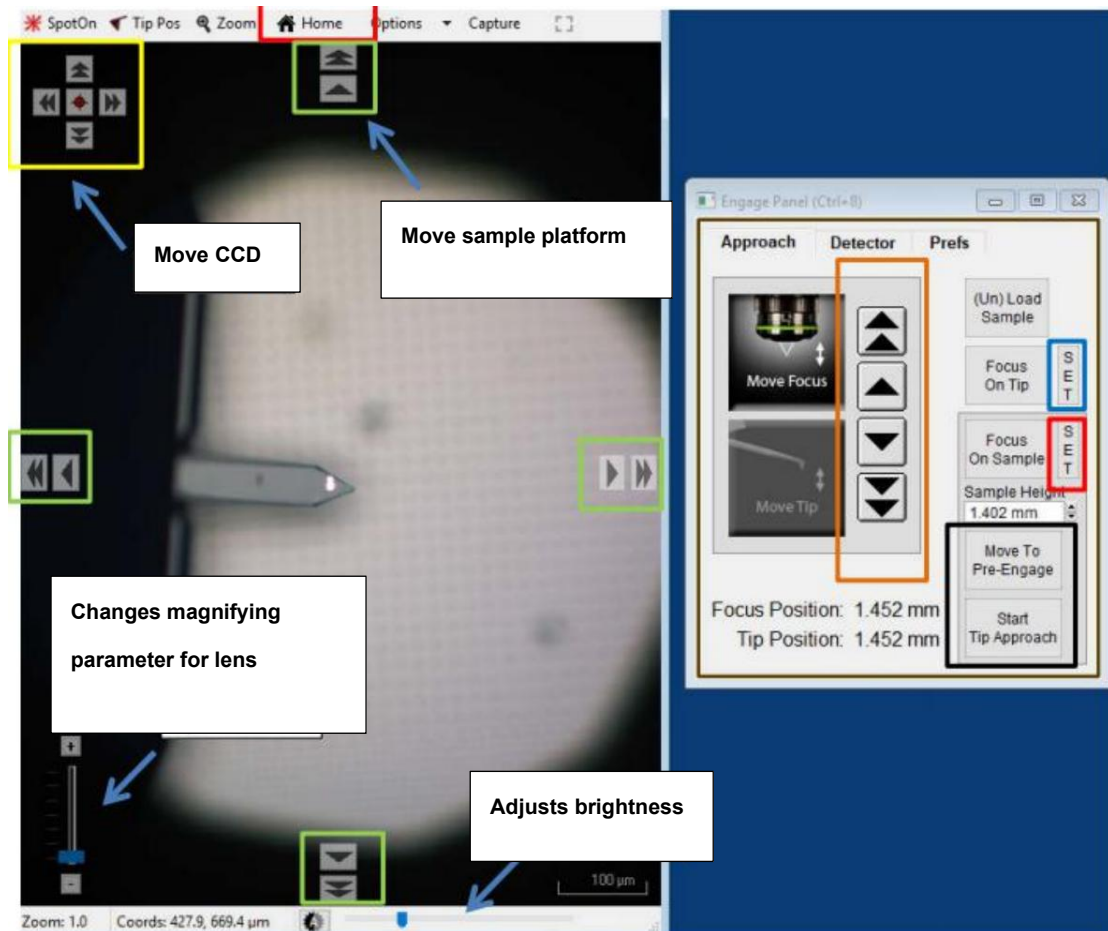

Figure 9
7) Click the "Move To Pre-Engage" button highlighted in Figure 9. This will position